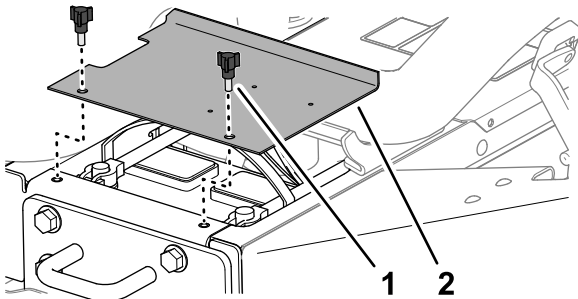

Figure 54
1. Release the latches at the left side and right side of the hood (Figure 54).